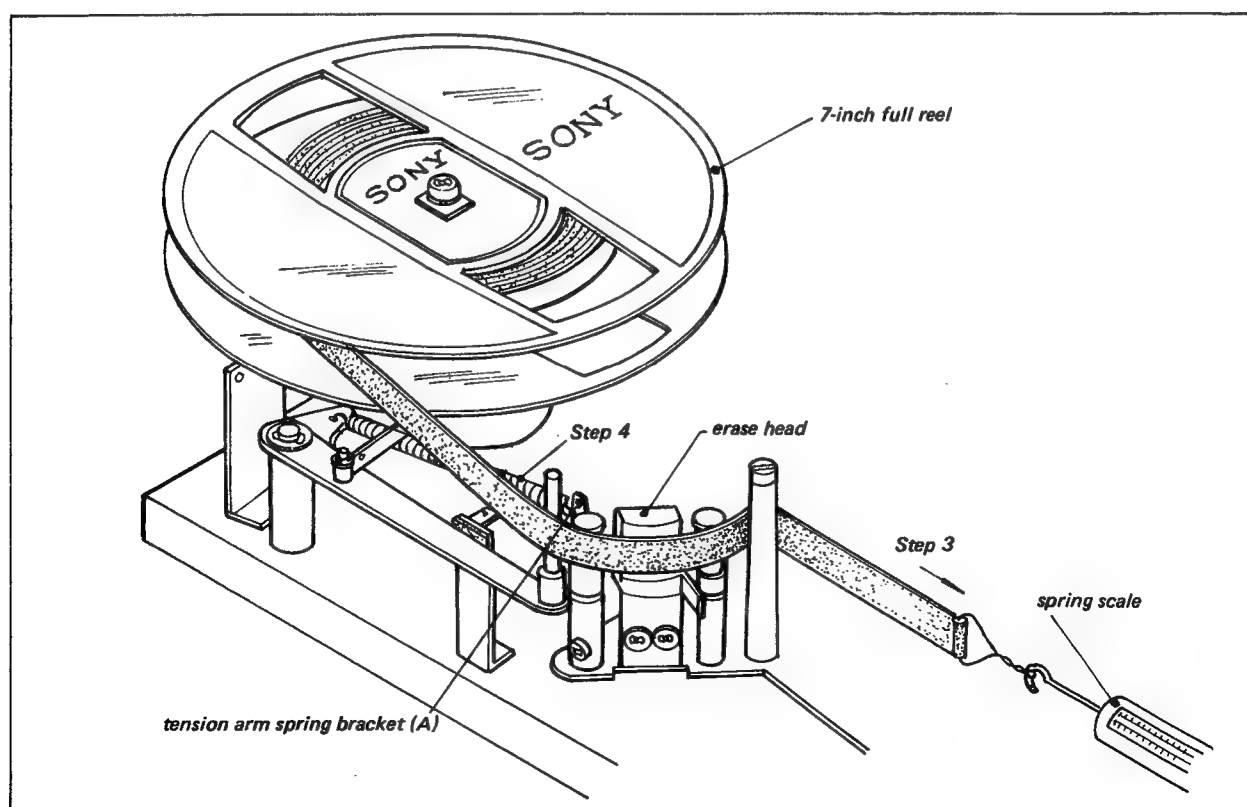

Fig. 4-8. Tape tension check
2. Make a loop in the tape and attach a spring scale as shown in Fig. 4-8.
4. If not, remove the Reel Panel and adjust the position of spring bracket (A) to obtain a correct reading. See Fig. 4-8.